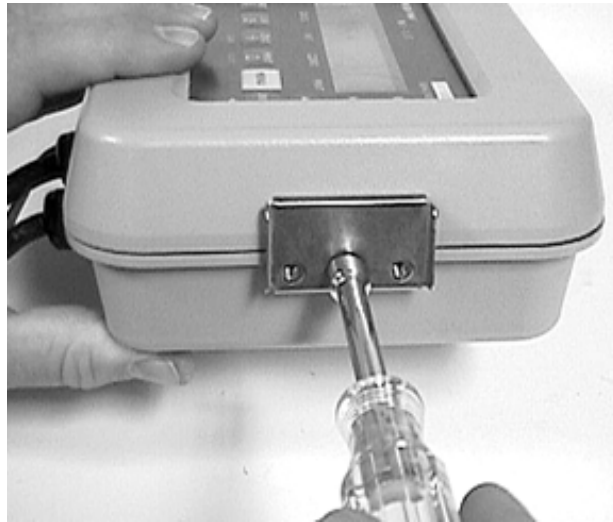

Figure 8
1. Remove the hex head screw on each side of the enclosure as shown in Figure 8.